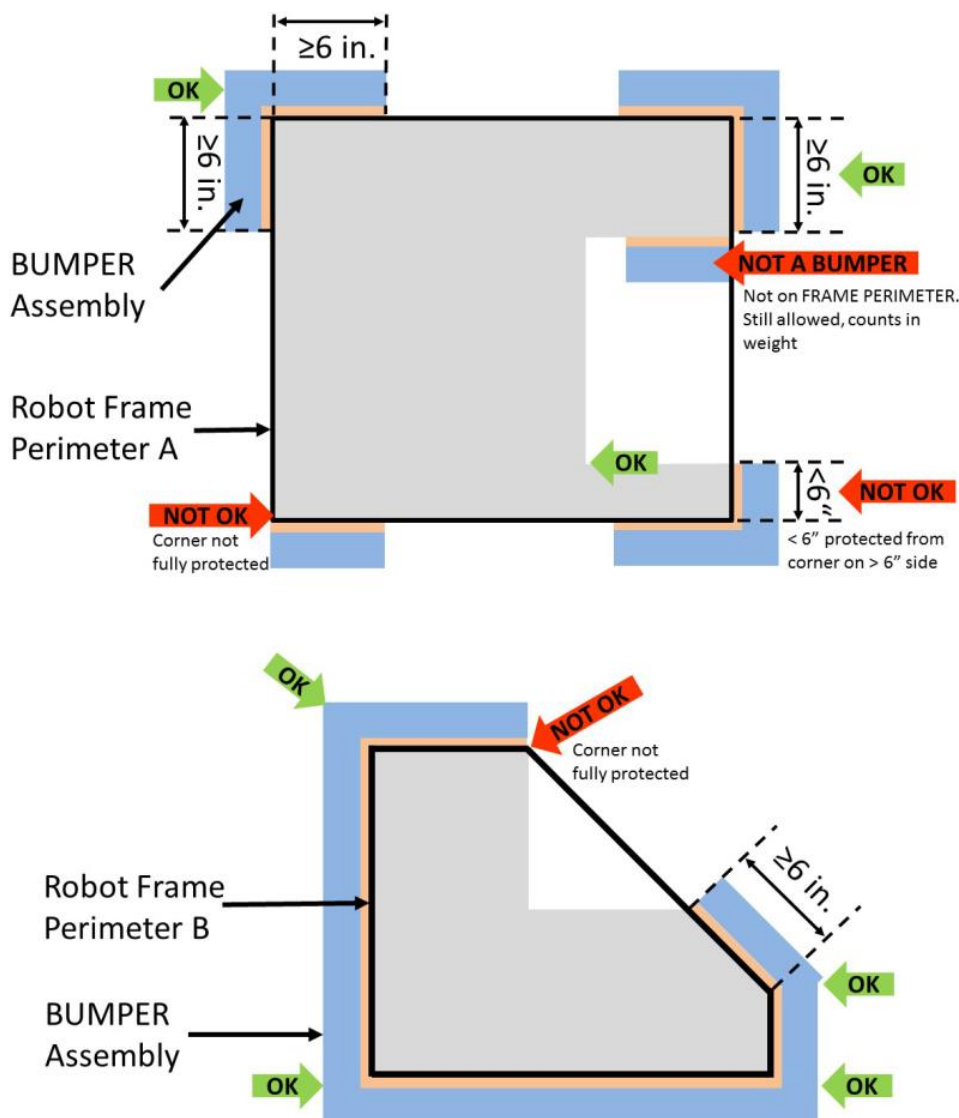
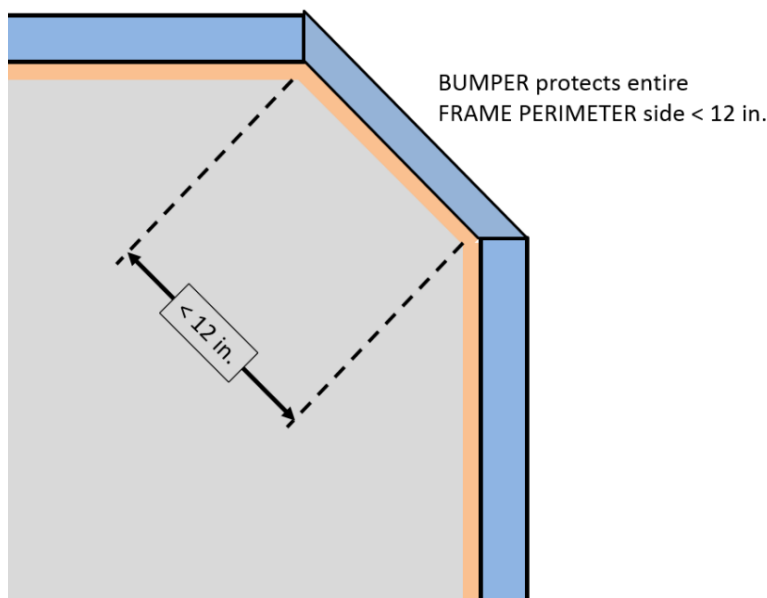

Figure 9-2 BUMPER corner examples
Figure 9-3 BUMPER around full side/corner
- R17.** ROBOTS are required to use BUMPERS to protect all outside corners of the FRAME PERIMETER. For adequate protection, at least 6 in. (~16 cm) of BUMPER must be placed on each side of each outside corner (see Figure 9-2 BUMPER corner examples) and must extend to within  $\frac{1}{4}$  in. (~6 mm) of the FRAME PERIMETER corner. If a FRAME PERIMETER side is shorter than 12 in. (~31 cm), that entire side must be protected by BUMPER (see Figure 9-3). A round or circular FRAME PERIMETER, or segment of the FRAME PERIMETER, is considered to have an infinite number of corners, therefore the entire frame or frame segment must be completely protected by BUMPER(S).
The dimension defined in R17 is measured along the FRAME PERIMETER. The portion of the BUMPER that extends beyond the corner of the FRAME PERIMETER is not included in the 6 in. (~16 cm) requirement. See Figure 9-2.